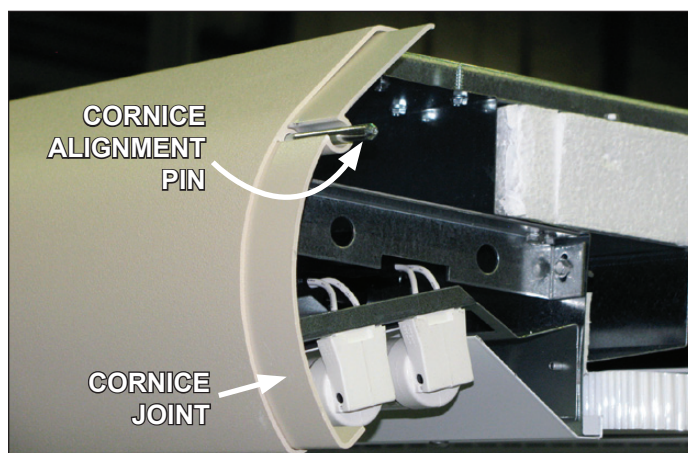

Fig. 5 Cornice joints
7. Tighten all cornice joints as needed (Fig. 5). Working outward from the center of the line-up, loosen the fasteners on the top and slide the cornices in one direction so that each joint aligns tightly together. Tighten the